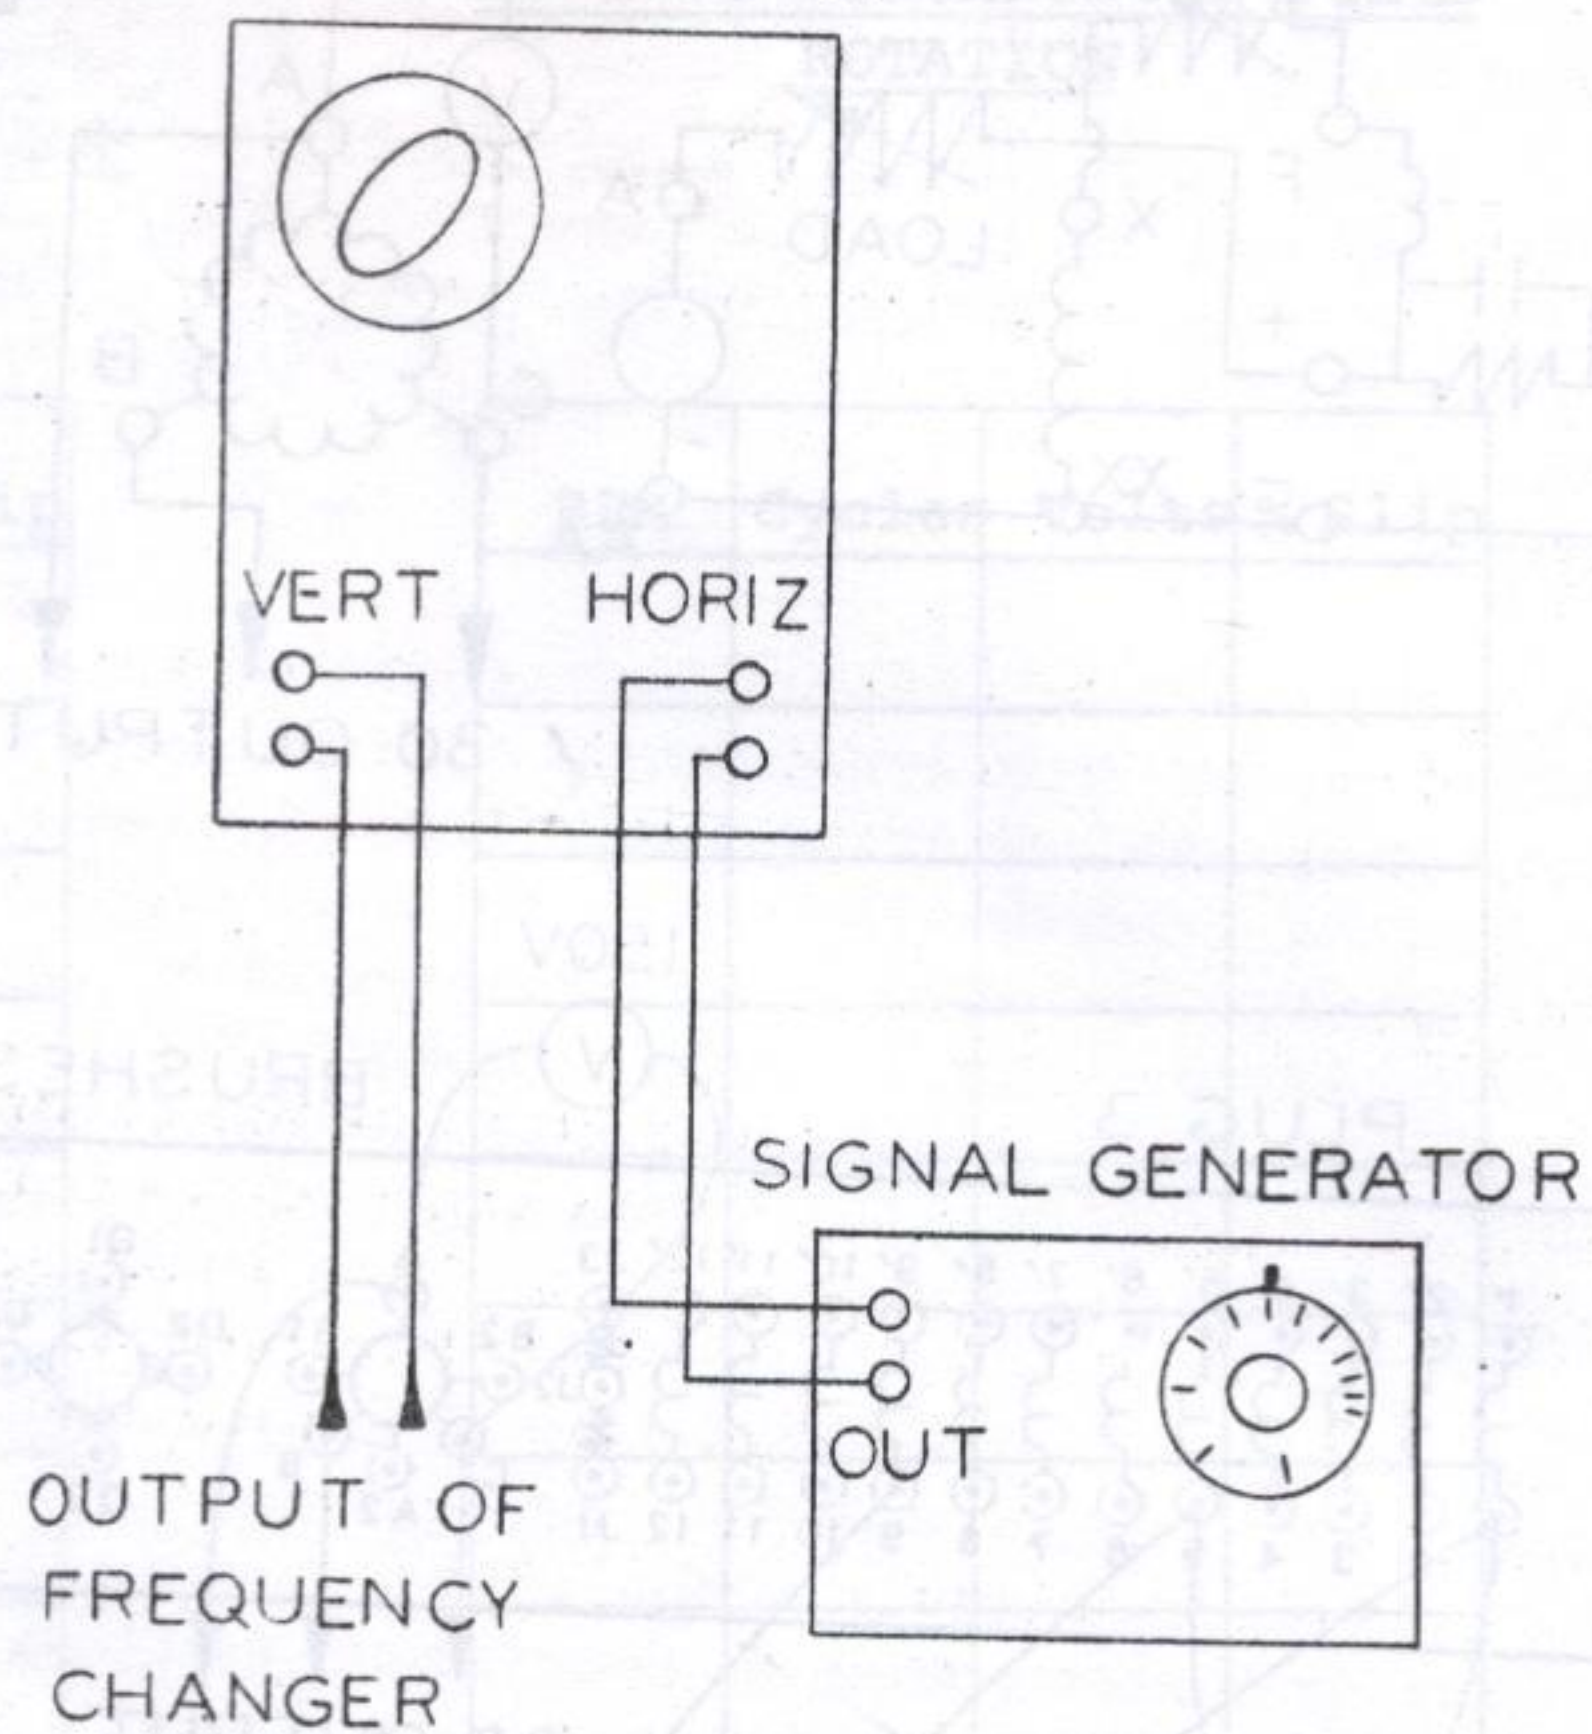

FIGURE 33: FREQUENCY MEASUREMENT
3. Connect the Oscilloscope and Signal Generator as shown in Figure 33 to enable the measurement of the output frequency. Frequency is determined by adjusting the horizontal and vertical gains of the oscilloscope and the frequency and amplitude of the output of the signal generator until a stationary lissajous pattern is obtained. The output frequency of the changer is then the same as indicated on the calibrated dial of the signal generator.